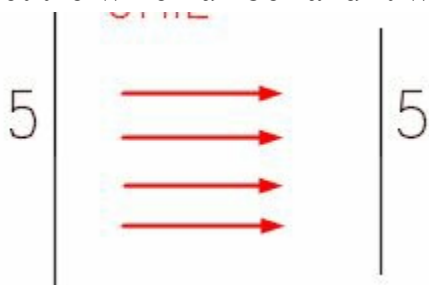

Figure-72. Wire number flipped
- Select the wire number and it will be flipped to the other side of wire; refer to Figure-72.